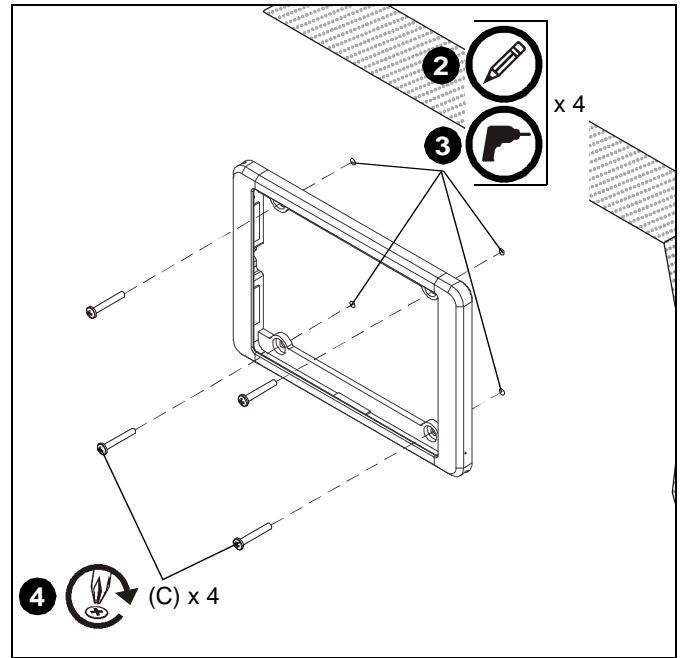

Figure 7
2. Using FSRI2T as a template, level and mark four holes at the four holes in FSRI2T. (See Figure 7)
3. Drill four 1/4" pilot holes at marked locations on wall. (See Figure 7)
4. Install four 1/4-20 x 1-3/4" Phillips pan head screws (C) through holes in FSRI2T and into four pilot holes. (See Figure 7)